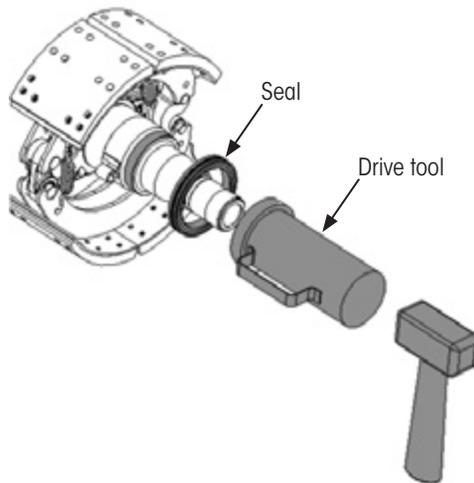

Figure 12: Spindle-mounted seal installation
This type of seal is mounted on the spindle before installing the hub. The replacement seal should be same brand and type as originally installed by the OEM. A recommended installation tool (Figure 12), with instructions, is available from the seal manufacturer.
2. Following manufacturer's instructions, **place** the seal on the spindle (Figure 12). **Ensure** the seal is correctly oriented with "air side" facing inboard and "oil side" facing outboard.